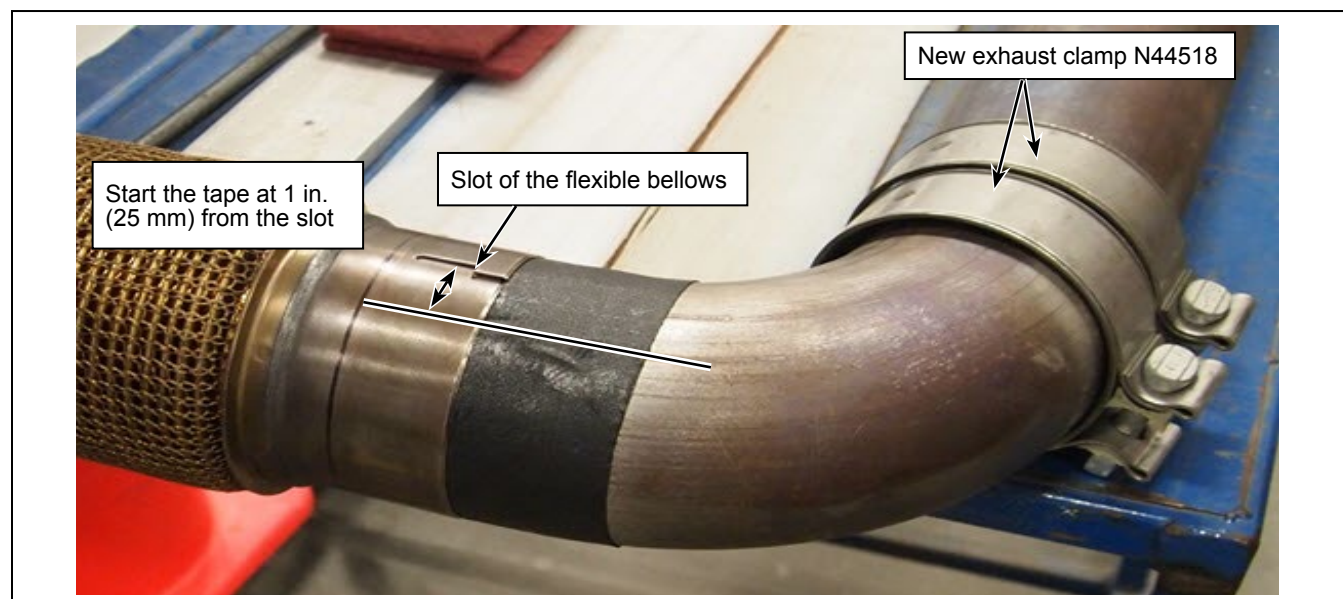

Figure 2 - Position of N83257 Tape on the Exhaust Pipe and Installation of Exhaust Clamp N44518
- 1.7. Starting 1 inch (25 mm) from the slot of the flexible bellows, wrap 3 feet of N83253 (2 in. wide) tape around the exhaust pipe without any spiral. Tape must be flush with the flexible bellows and not overlap on the flexible bellows. See Figure 2.
- 1.8. Install new exhaust clamps N44518 on the exhaust pipe. See Figure 2